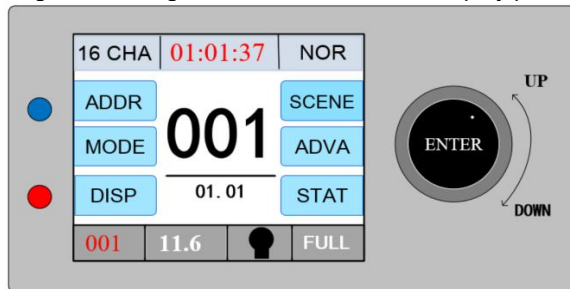

Figure 3-2 Diagram of the knob display panel
- For the knob shown in Figure 3-2, the cursor can be controlled up or down by rotating in different directions, and pressing the knob can confirm it. If you want to go back, turn the knob to move the cursor to the back button on the display, press the knob to confirm and return.